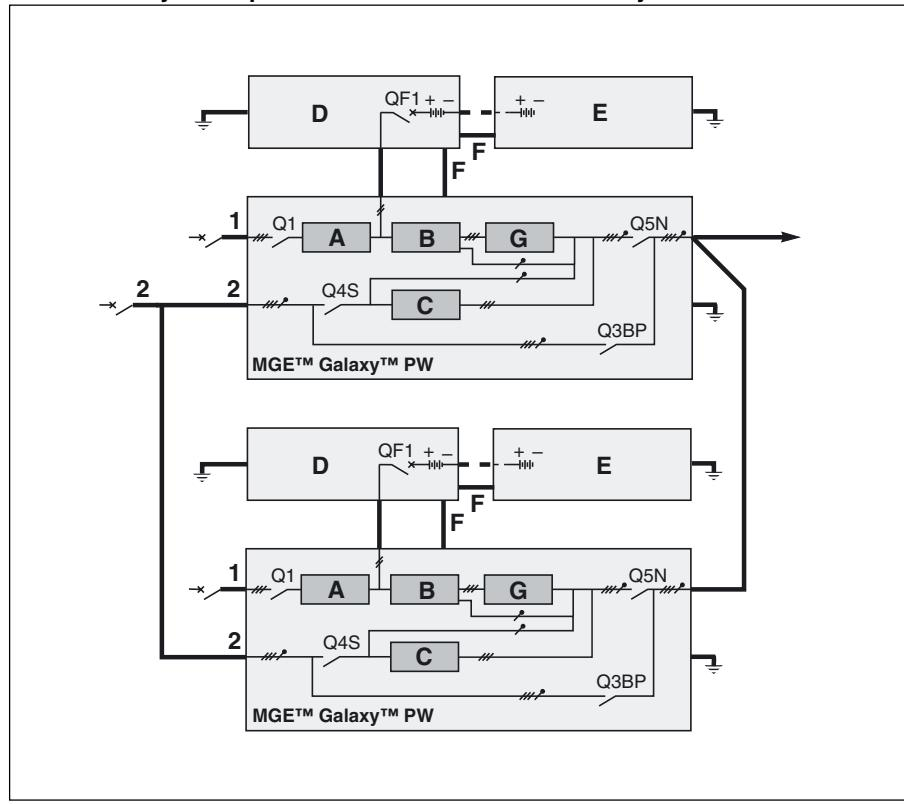

Fig. 9
► see figure 9 for a two parallel
Key for figures 9 and 10: